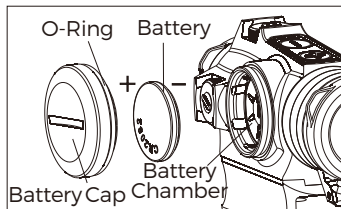

Fig 4-1
- 1) Battery Installation: (Fig 4-1)